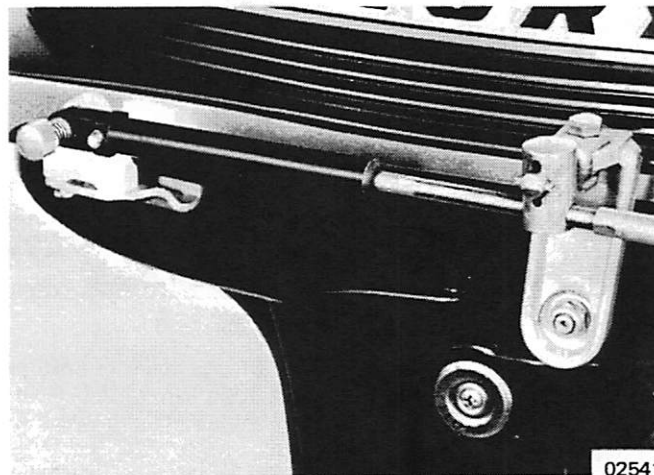

Figure 2. Shift Cable Installed
5. With single lever remote control handle and shift lever both in neutral position, attach brass shift barrel and anchor pin on motor (Figure 2) without disturbing setting. Brass barrels may be adjusted on cables for correct position and to compensate for cable backlash.